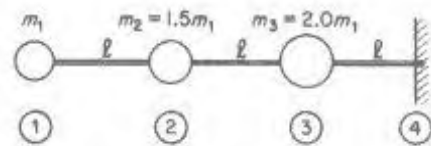

Figure 8b
8. A uniform massless cantilever beam of total length 1.5m and $EI = 0.1 \times 10^6 \text{ Nm}^2$ carries three lumped masses at points along its length as shown in the figure 8b. The smallest mass $m_1 = 100 \text{ kg}$.